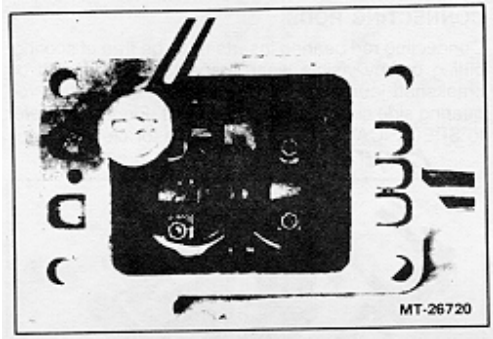

Figure 8 - Removing Connecting Rod Cap Nuts
4. With a 7/16-inch socket remove the rod nuts (Figure 8).